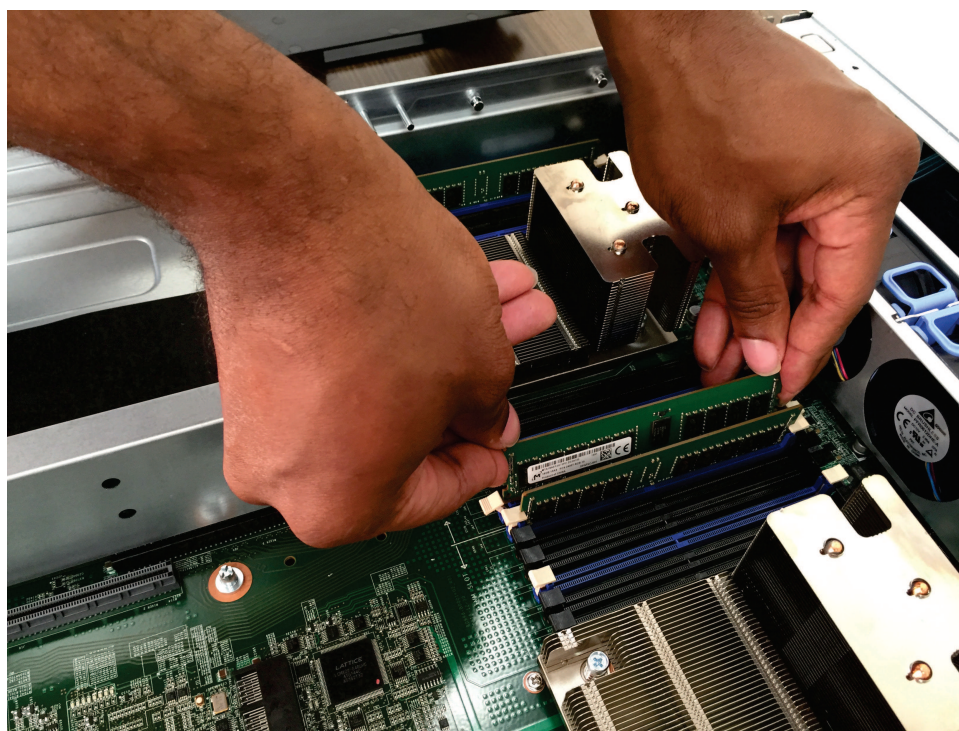

Figure 79. Installing the DIMM
6. Insert the DIMM into the connector by aligning the edges of the DIMM with the slots at the ends of the DIMM connector, as shown in Figure 79. Firmly press the DIMM straight down into the connector by applying pressure on both ends of the DIMM simultaneously. The retaining clips snap into the locked position when the DIMM is firmly seated in the connector.